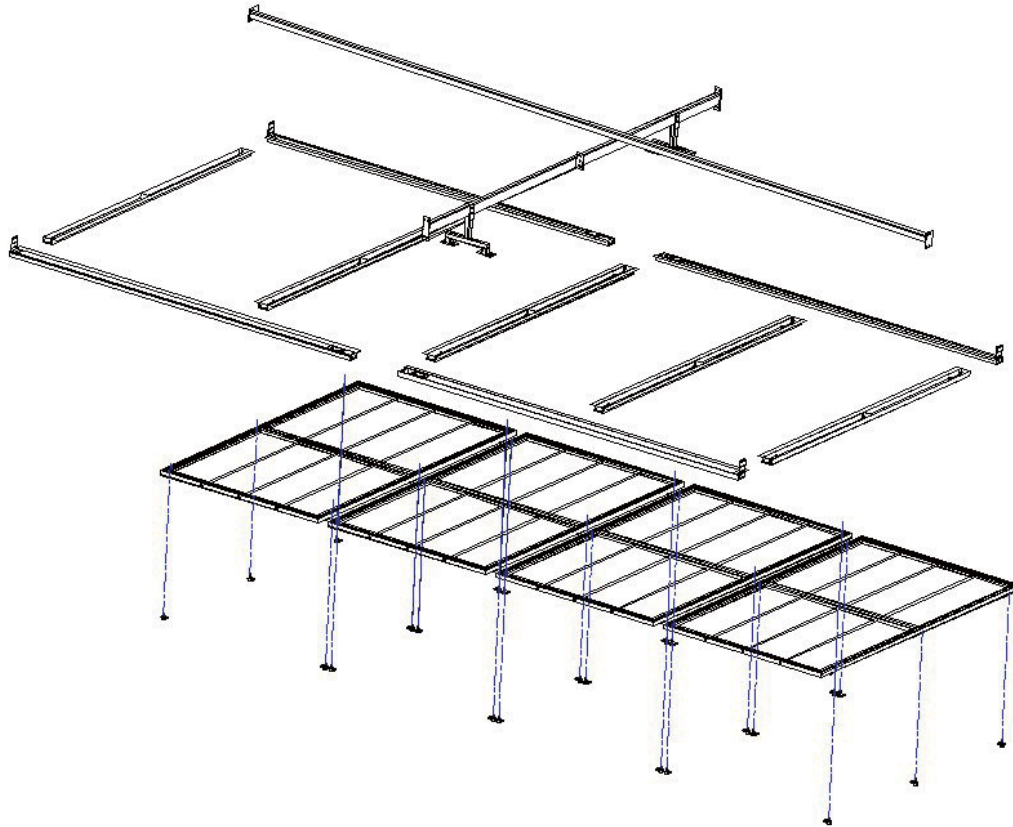

Fig. 2.7
1. Supportor beam installation(shown in Fig.2.7)
Install the light box into the ceiling, one side fix to the ceiling cover panel, and another side fix to the side panel of the ceiling with nail. Shown in Fig.2.7.
5. Filter frame installation shown in Fig.2.7. Fix the filter on the frame with frame slot first, then installate the filter frame with the hinge.